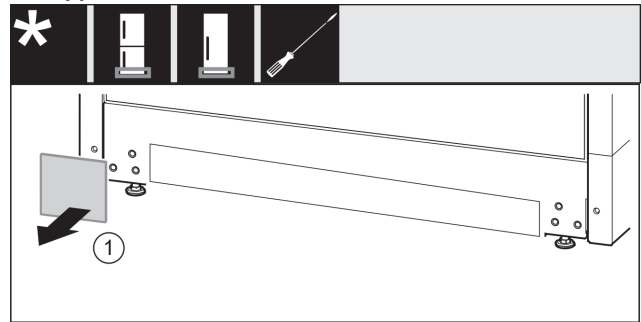

Fig. 35
- ▶ Take off the cover. Fig. 35 (1)